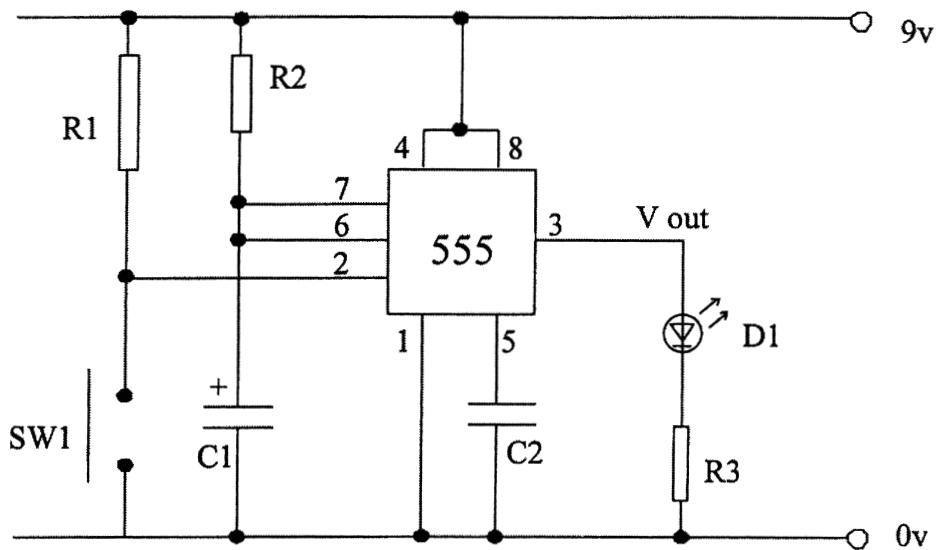

Figure 1
The monostable circuit in **Figure 1** is used to control the timing of the feeding of the fish. Use the information given to help you to complete the table in **Figure 2** which describes the pins used for the connection of the 555 timer Integrated Circuit (IC).